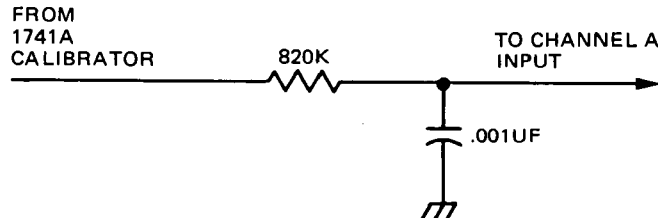

Figure 3-5. RC Network for B-scan Erase
- Connect a sine wave generator or the RC Network (shown in figure 3-5) to 1741A CALIBRATOR output and to Channel A INPUT connector.